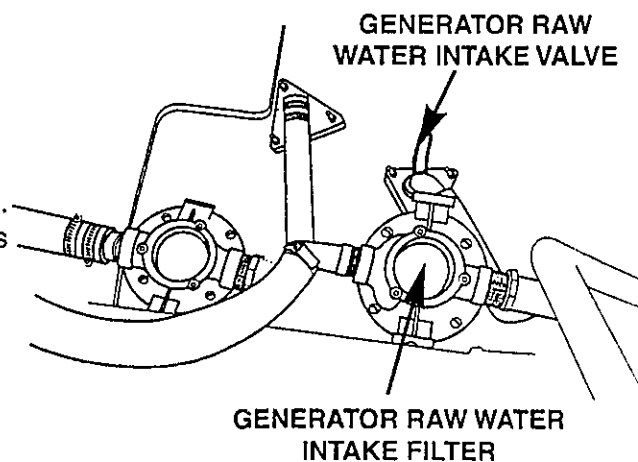

Figure 3-9 Generator Raw Water Intake Filter and Valve
10. See Figure 3-9. Check that water filter is clean. Open generator raw water intake valve. Valve is open when handle is in line with hose.